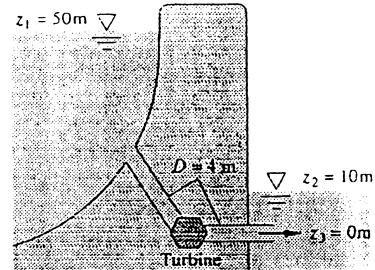

Fig. P3.145
3.145 The large turbine in Fig. P3.145 diverts the river flow under a dam as shown. System friction losses are $h_f = 3.5V^2/(2g)$, where V is the average velocity in the supply pipe. For what river flow rate in m^3/s will the power extracted be 25 MW? Which of the *two* possible solutions has a better “conversion efficiency”?